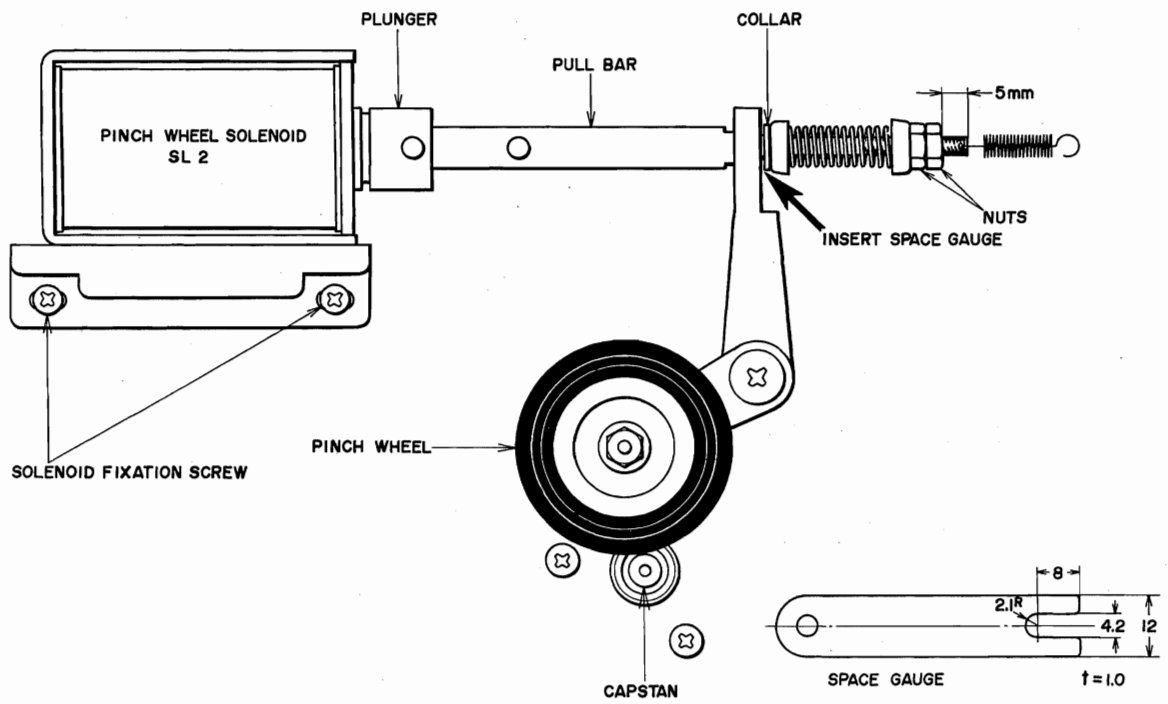

Fig. 12
4. PINCH WHEEL SOLENOID POSITION ADJUSTMENT (Refer to Fig. 12)